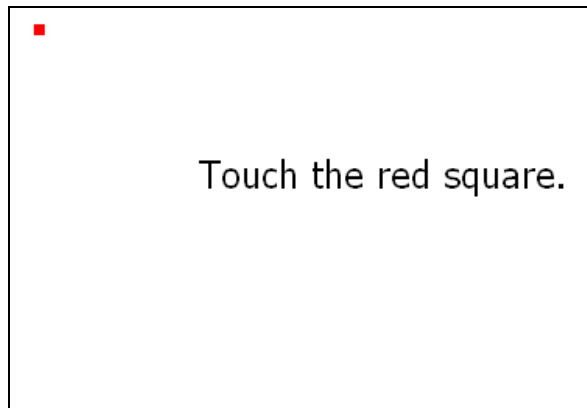

Figure 6-27: Calibration Screen
Step 9: The calibration screen in is shown. See **Figure 6-27**.